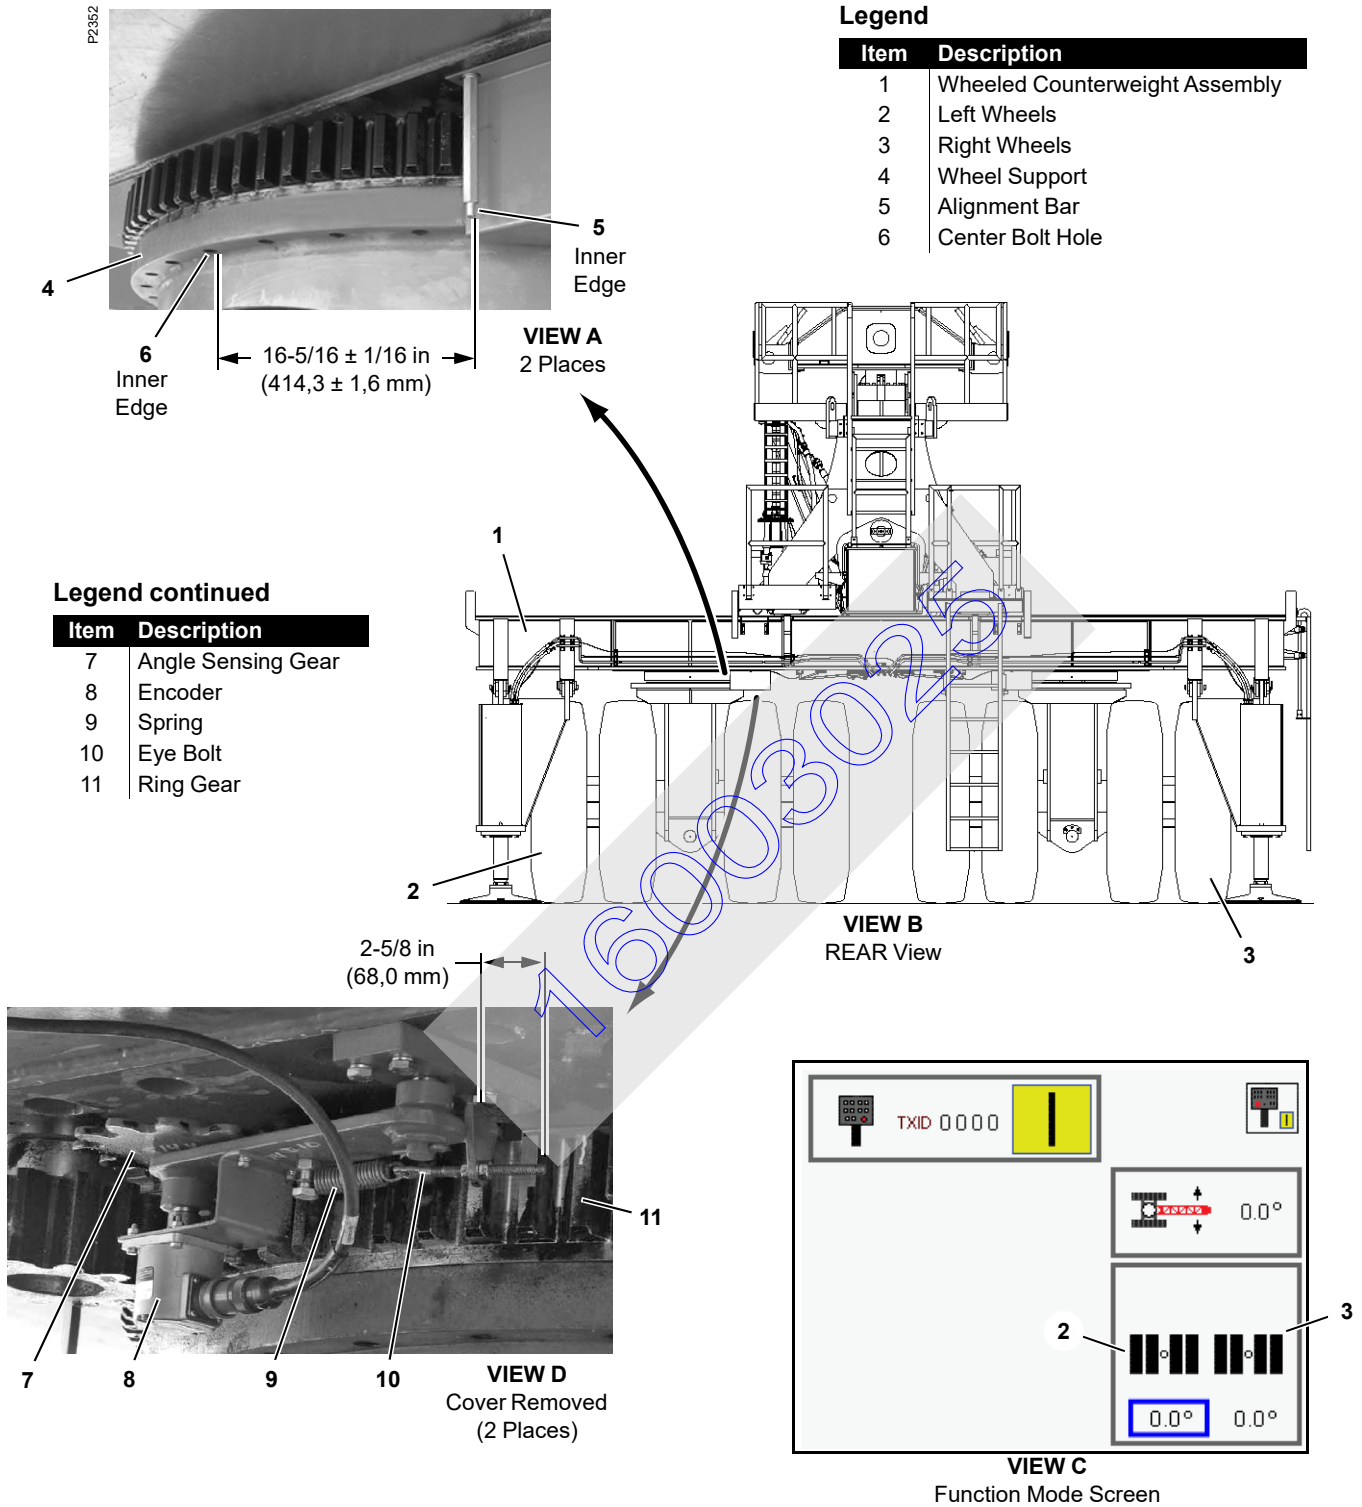

FIGURE 6-2
See Figure 6-2 for the following procedure.
See Figure 6-2, View D for the following procedure.
Adjust eye bolt (10) to the initial dimension given Figure 6-2. The spring must apply enough force to hold angle sensing gear (7) against ring gear (11).